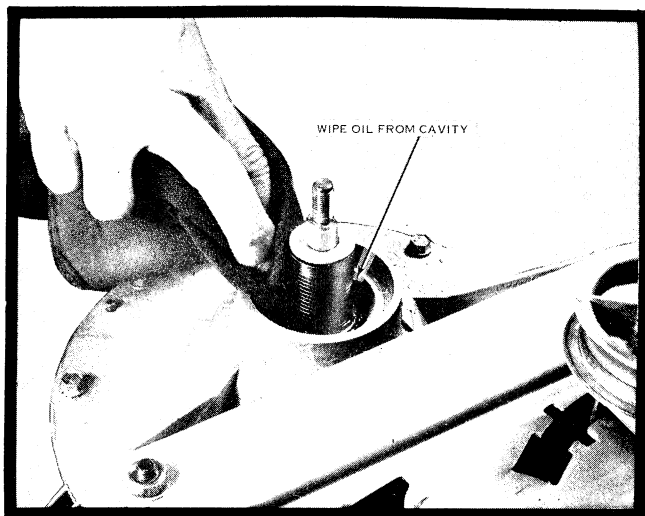

Figure 67
- h. Remove pulley, nut, steel washer and rubber washer, *Figure 67*.